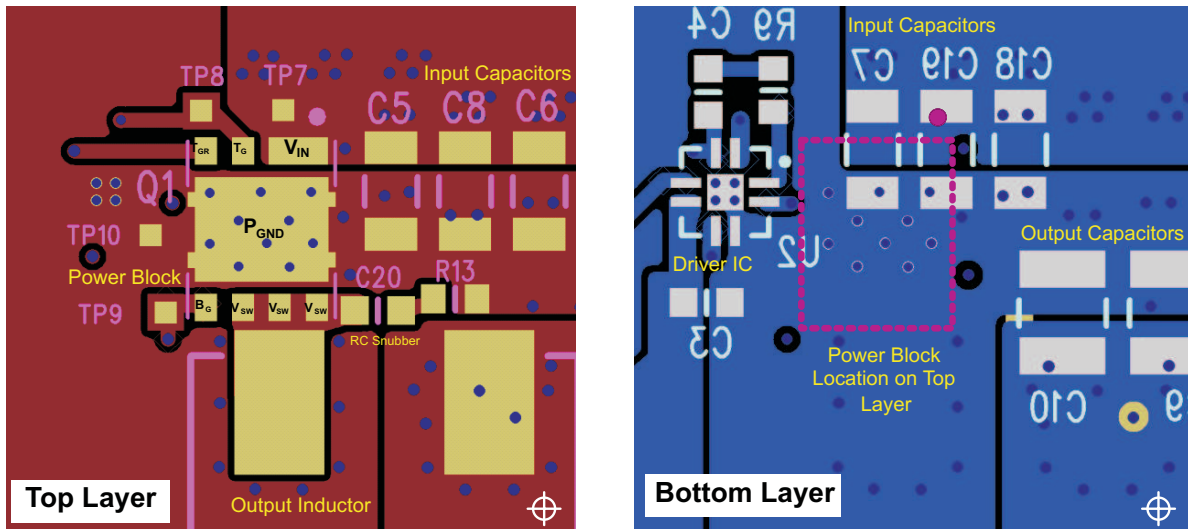

Figure 34. Recommended PCB Layout (Top Down View)
- The placement of the input capacitors relative to the power block's VIN and PGND pins should have the highest priority during the component placement routine. It is critical to minimize these node lengths. As such, ceramic input capacitors need to be placed as close as possible to the VIN and PGND pins (see Figure 34). The example in Figure 34 uses 6 × 10- μ F ceramic capacitors (TDK C3216X5R1C106KT or equivalent). Notice there are ceramic capacitors on both sides of the board with an appropriate amount of vias interconnecting both layers. In terms of priority of placement next to the power block, C5, C7, C19, and C8 should follow in order.
- The switching node of the output inductor should be placed relatively close to the power block VSW pins. Minimizing the node length between these two components will reduce the PCB conduction losses and actually reduce the switching noise level. In the event the switch node waveform exhibits ringing that reaches undesirable levels, the use of a boost resistor or RC snubber can be an effective way to reduce the peak ring level. The recommended boost resistor value will range between 1 Ω to 4.7 Ω depending on the output characteristics of driver IC used in conjunction with the power block. The RC snubber values can range from 0.5 Ω to 2.2 Ω for the R and 330 pF to 2200 pF for the C. Refer to Snubber Circuits: Theory, Design and Application (SLUP100) for more details on how to properly tune the RC snubber values. The RC snubber should be placed as close as possible to the Vsw node and PGND see Figure 34.⁽¹⁾
- Use the smallest drill size allowed in the design. The example in Figure 34 uses vias with a 10-mil drill hole and a 16-mil capture pad.